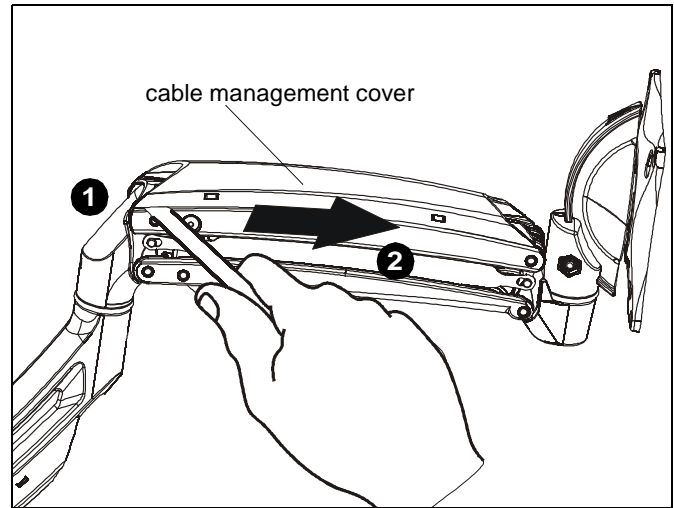

Figure 16
1. Use screwdriver to unhinge tab on either end of cable management cover on upper arm. (See Figure 16)
2. Slide screwdriver along edge of cover until remaining tabs are unhinged and cover is in the "open" position. (See Figure 16)